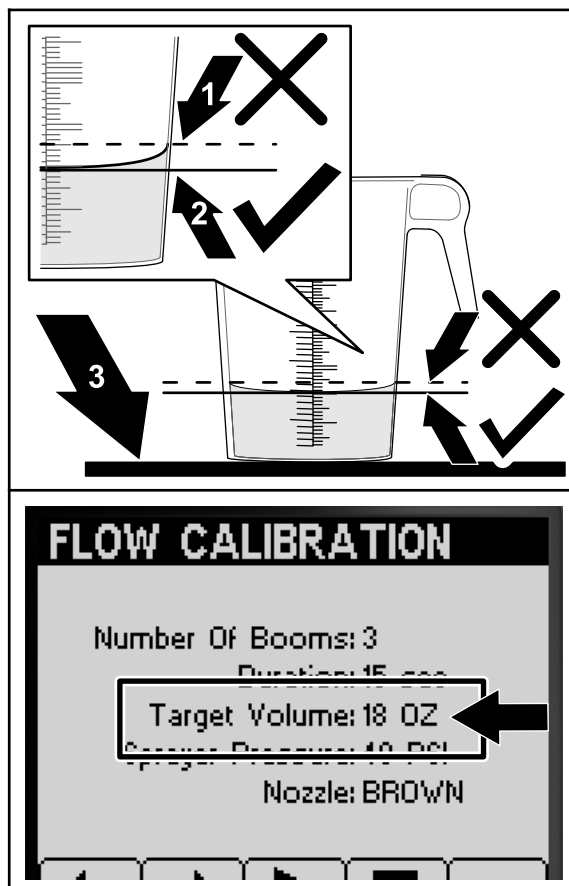

Figure 52
- Set the graduated container on a level surface and note the fluid volume (Figure 52).
- Compare the volume of fluid in the graduated catch container with the Target Volume displayed on the InfoCenter screen (Figure 52).